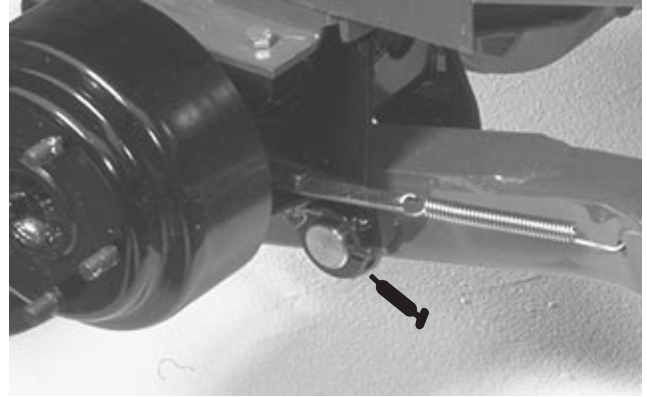

Figure 9
The (2) mount frame pivots (Fig. 9) must be lubricated after every 8 hours of operation with a No. 2 Lithium based grease.